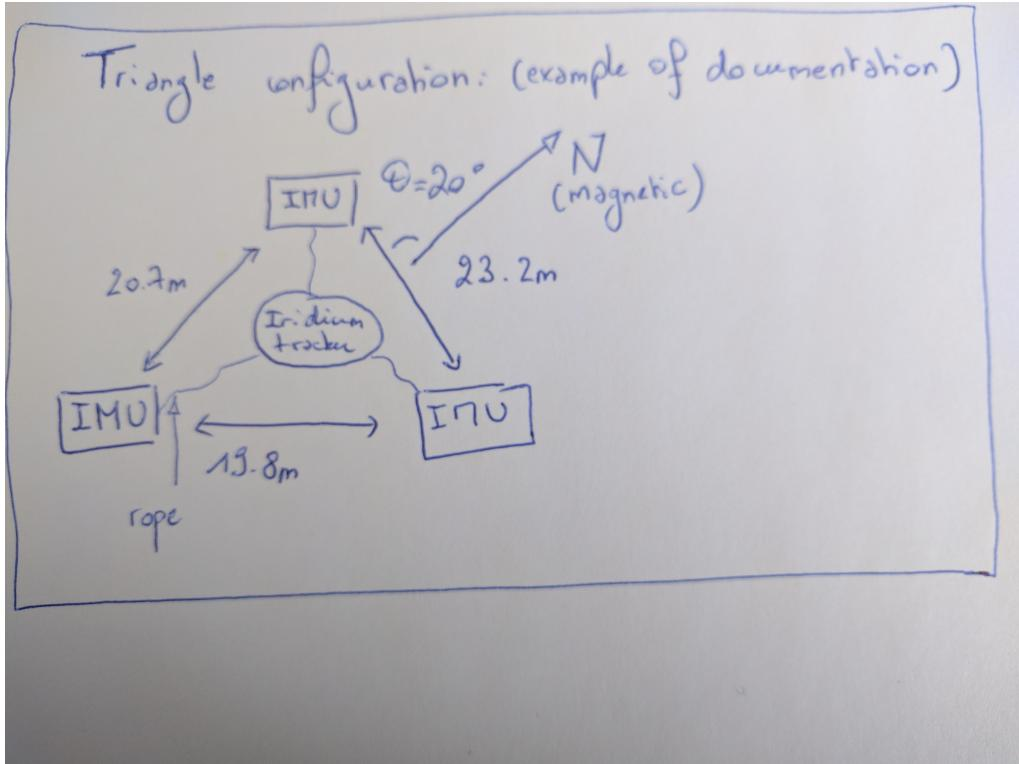

Figure 6: Example of sensors deployment in an array of 3 format.
- If the floes are large enough, deploy the sensors by groups of 3, in a triangle configuration, each group of 3 sensors on the same floe. The sensors should be deployed at the angles of the triangle, and the distance between two sensors should be about 15 to 20 meters. Tie the three sensors together with a rope, to make recovery easier and keep the sensors grouped in case of floe dislocation. Make sure to measure accurately the distance between each pair of sensors, as the GPS accuracy is only typically a couple of meters but we need to rely on the distance between the sensors during processing. Also take note of the array orientation. See Fig. 6 for an example of technical documentation of an array deployment.
- The sensors float without the addition of any buoy, so using a buoy is not strictly needed. However, if you want to measure wave spectrum in the open water, use preferably the lighter yellow sensors (FX), together with a corresponding buoy. You can use the flags to make detection during recovery easier. A couple of heavier orange sensors can also be equipped with a buoy. You should use straps to fix the IMUs on the floats.